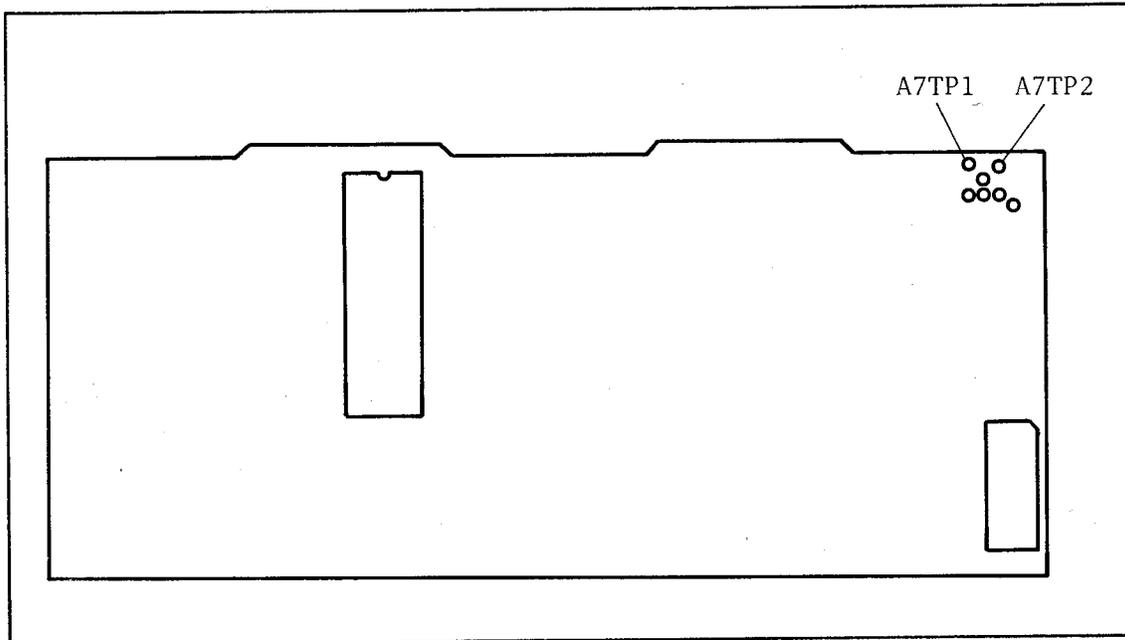

Figure 1-6. Voltage Adjustment Access Locations
3. Connect the LO lead of the 3478A to A7TP2 and the HI lead to A7TP1. Figure 1-6 shows the location of test points.